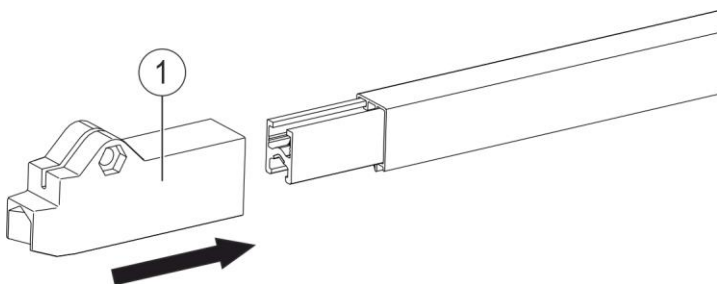
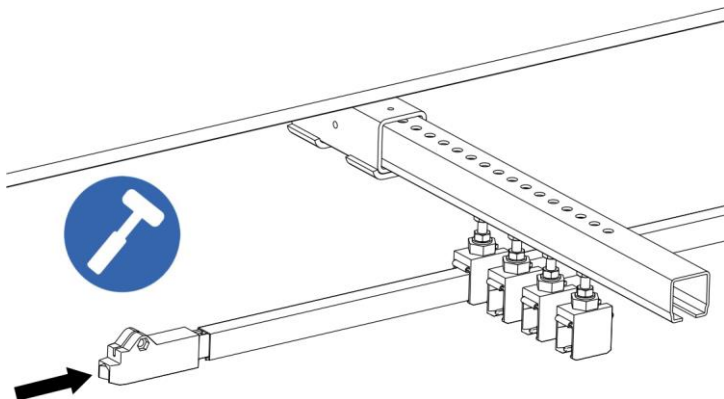
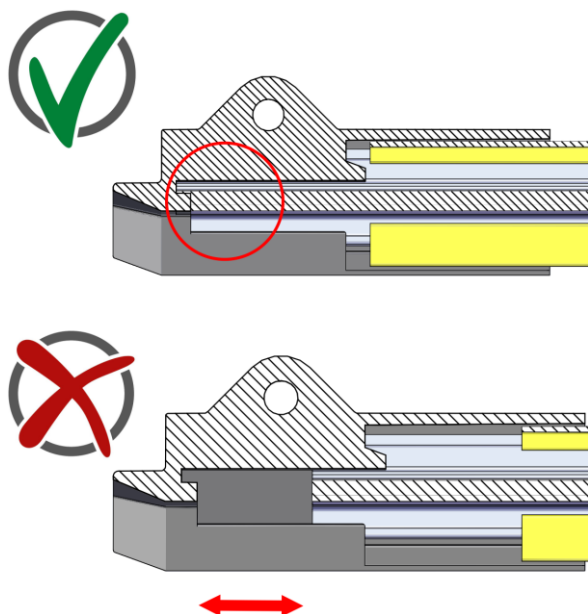

Fig. 103: Slide the end cap onto the end of the conductor rail
Fig. 104: Tap the end cap onto the end of the conductor rail
Fig. 105: The end cap is mounted correctly (above) and incorrectly (below)
- Tap the end cap (Pos. 1) onto the end of the conductor rail with careful and light mallet taps (see Fig. 103, Fig. 104 and Fig. 105).